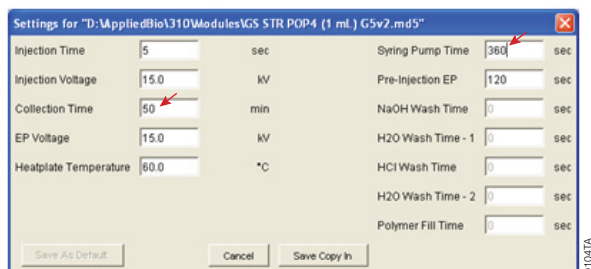

Figure 13. Changing the collection time and syringe pump time.
5. Change the Collection Time to “50” and Syringe Pump Time to “360” (Figure 13). Select “Save Copy In”.